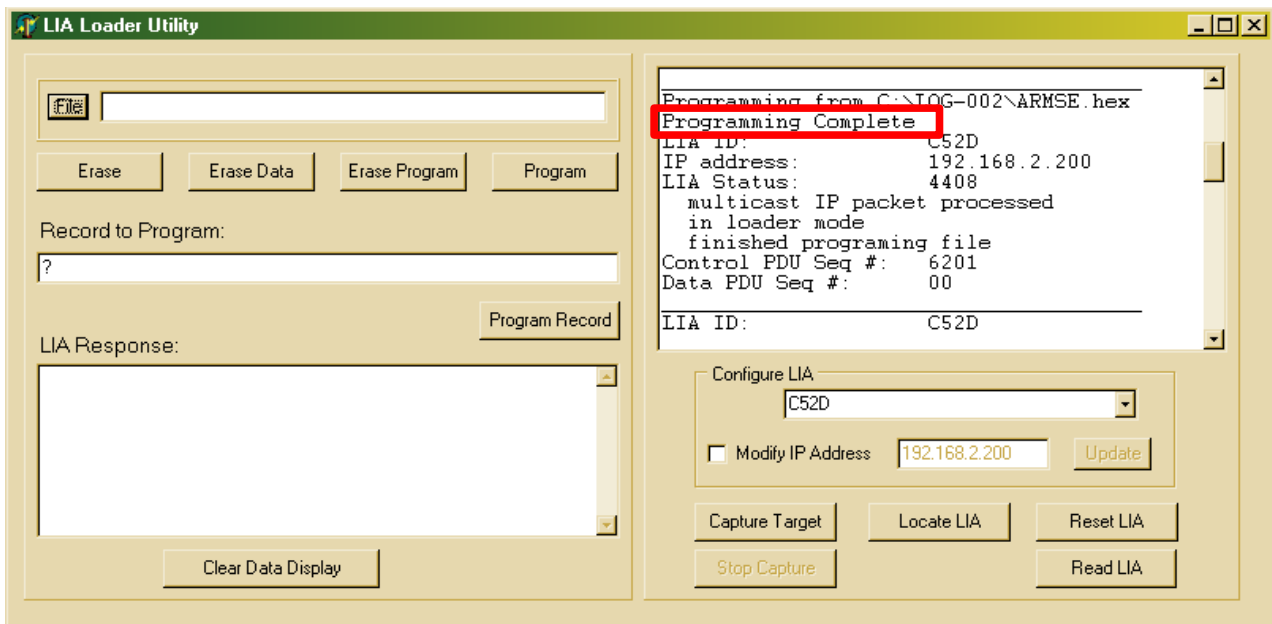

Figure 39: Programming complete
9. Download completes and the modem sends the “Programming Complete” message shown in figure 39.